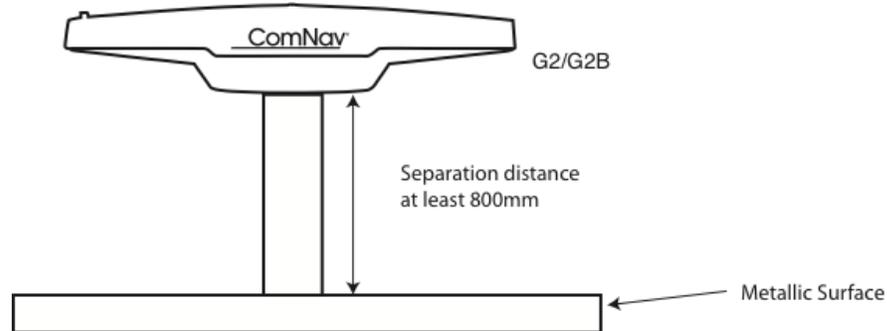

Figure 6 - Mounting distance to large metallic surface
- 2) Push the flying lead end of the cable through the center opening of the mounting gasket (Figure 6).